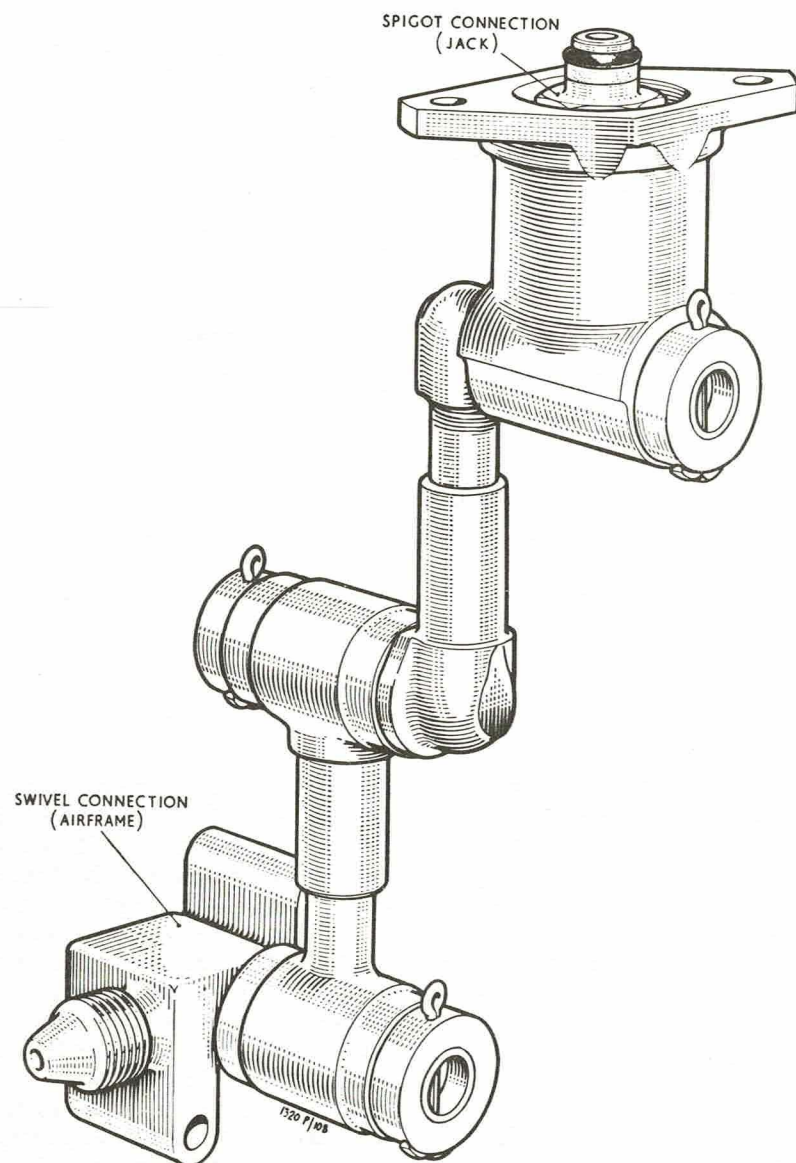

Fig. 1 Swivel pipe unit (with restrictor)
1. This swivel pipe unit is attached to a specific nose undercarriage jack to supply fluid for closing the jack and to permit movement of the jack during operation. The unit incorporates a restrictor valve to reduce the rate of fluid flow to and from the jack (fig. 1).